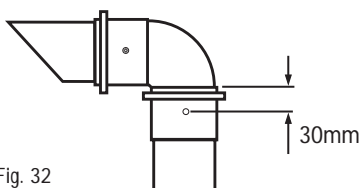

Fig. 32
13. Mark and drill the 60Ø exhaust, using a 2mm bit, as shown in Fig. 32. Complete the installation of the 60Ø exhaust, securing in the brackets.